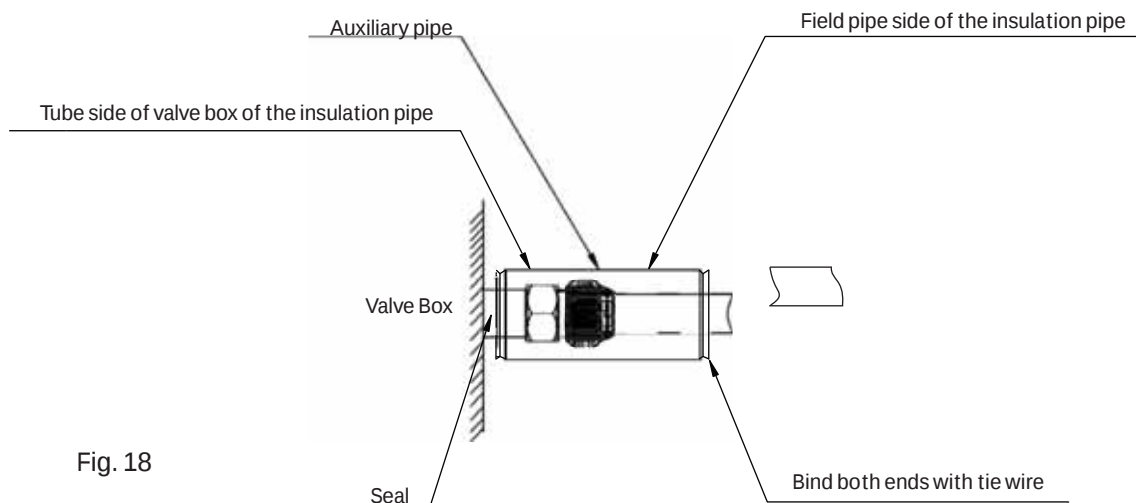

Fig. 18
- (1) Please connect it tightly to ensure there are no leaks.
- (2) The binding strap should not be so tight as to reduce the size of the insulation wall thickness.
- (3) Ensure that insulation material seams are installed upwards. (See Fig.18.)